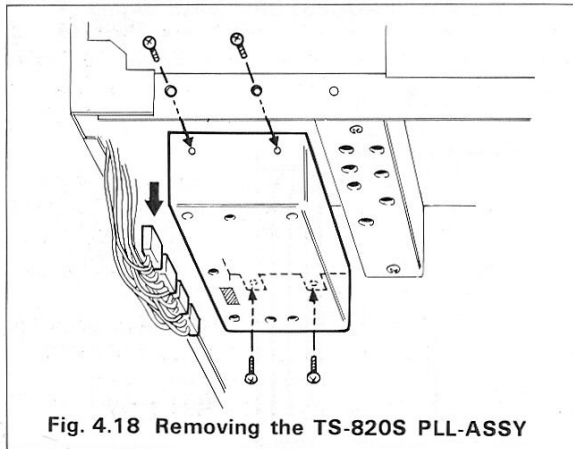

Fig. 4.18 Removing the TS-820S PLL-ASSY
4.24 MODIFICATION OF THE TS-820S (FIG. 4-18 TO 4-28)
1. Remove the PLL-ASSY unit (Fig. 4-18).